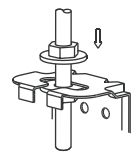

Fig.1-5
- Locate the air conditioner firmly by wrenching the nuts after having adjusted the body's position well.(Refer to Fig.1-5)